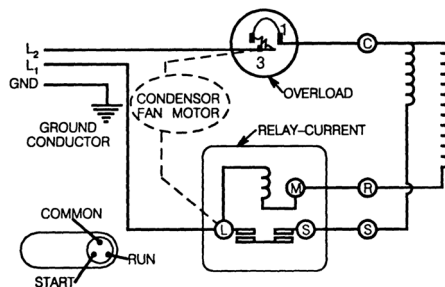

Figure 12. Compressor Schematic
1. Check relay (See Figure 12.) Unscrew lead terminals and remove relay from compressor. (NOTE: keep relay upright)
4. Check compressor windings as shown in Figure 12.